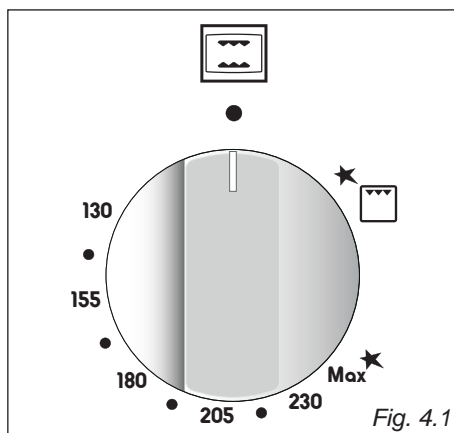
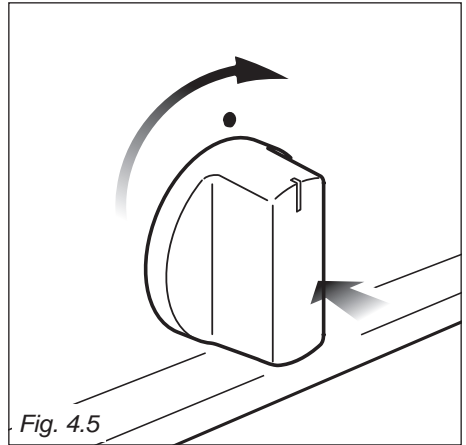

Fig. 4.1
Fig. 4.5
The numbers **130** to **Max**★ printed on the control panel (fig. 4.1) indicate the increasing oven temperature value (see table 4.2).
2. Lightly press and turn the thermostat knob anti-clockwise (fig. 4.4) to max position **Max**★ (fig. 4.1). Press the knob firmly until the burner lights.
2. Lightly press and turn the thermostat knob clockwise (fig. 4.5) to the position  (fig. 4.1).